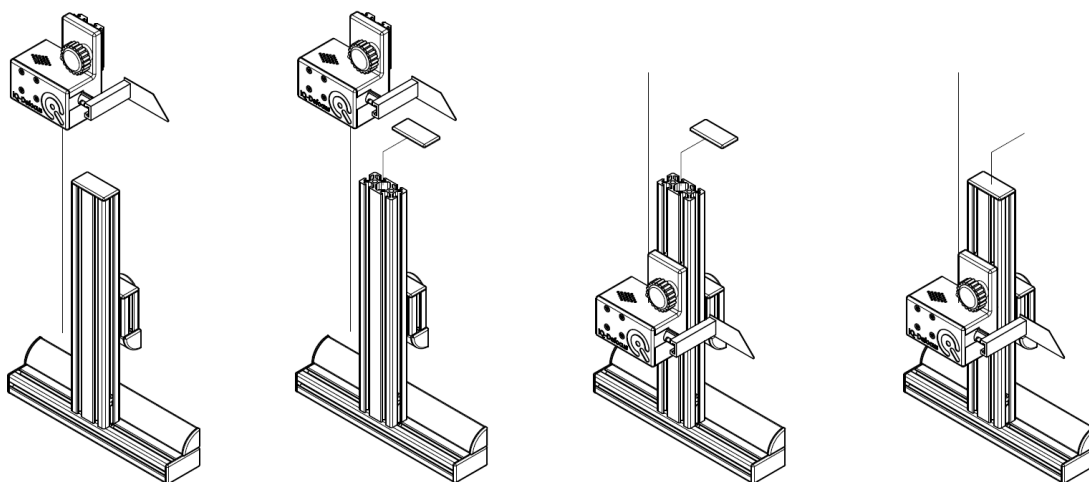

Figure 1: Attach the iQ-Defocus to the iQ-Mobilemount
- Slide the iQ-Defocus into the grooves of the iQ-Mobilemount, as shown in Figure 1